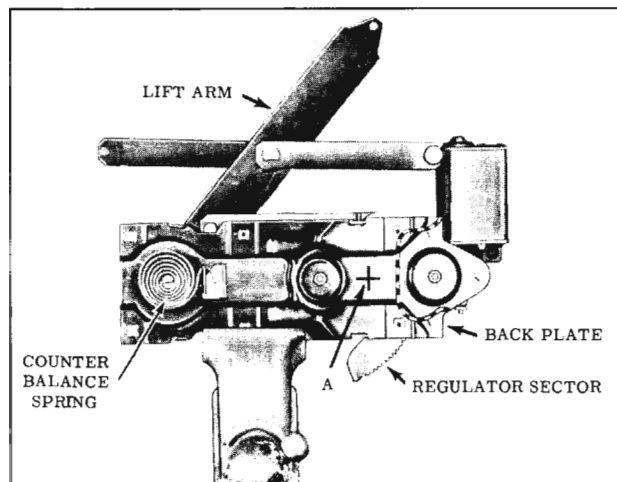

Fig. 16-57 Rear Door Window Regulator
1. Remove electric window regulator assembly from door and/or rear quarter and clamp securely in vise. (Fig. 16-57)
plate. (View "A", Fig. 16-57)
4. Remove motor attaching bolts and remove motor assembly from regulator. (Fig. 16-57)